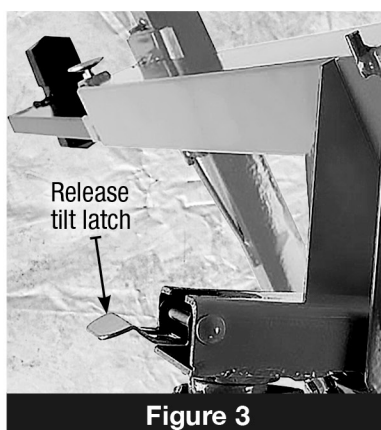

Figure 3
4. Release the tilt latch to tilt the cradle (see figure 3).